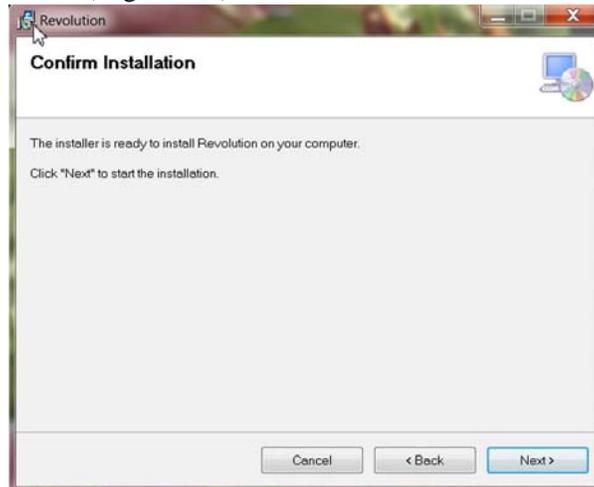

Figure 4-7. *Confirm Installation Screen*
6. Next is the *Confirm Installation* (Figure 4-7) screen. Click **Next**.